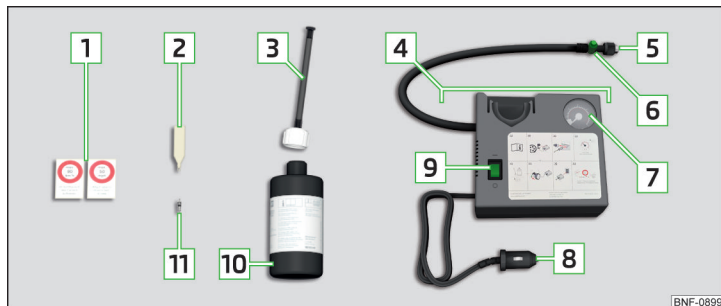

Fig. 333 Description of puncture repair kit
- Insert the valve remover  » Fig. 333 on page 289 on the valve insert, so that the valve insert fits into the slot of the valve remover.
- Screw the air compressor tyre inflation hose  » Fig. 333 on page 289 firmly onto the tyre valve.